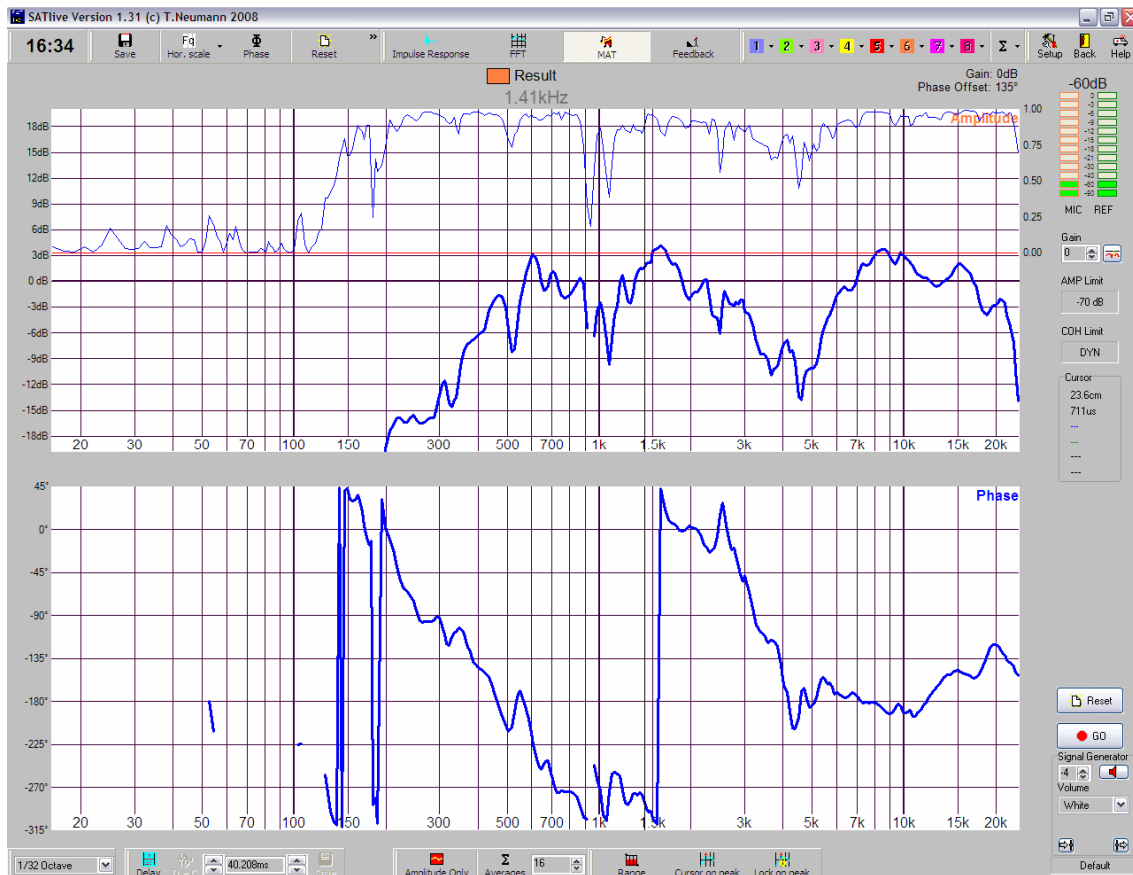

Fig. 15. Magnitude and phase response for the mid-high box.
5) Measure the mid-highs and save the curve. In our example, the curve in Figure 15 is obtained.